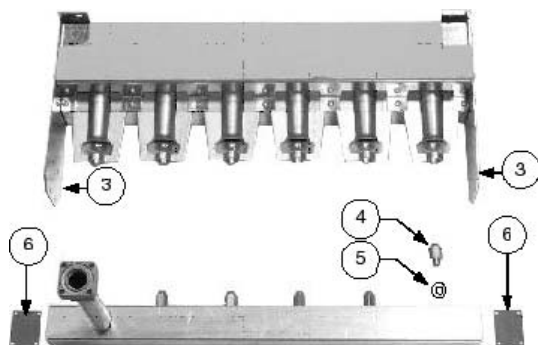
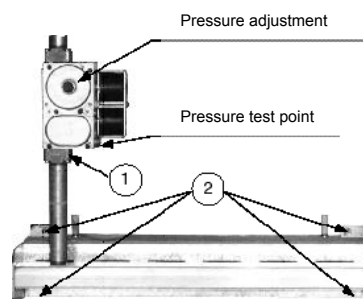

fig.30
fig.31
3. Release the multi-torch burner, disconnecting it from the gas valve (in fig.31 see point 1) and removing the four screws (in fig.31 see points 2) used to secure it (in fig.30 see points 3).
5. Screw on the new nozzles (in fig.30 see 4), replacing the relevant metal gaskets (in fig.30 see point 5)
6. Refit the gas train, replacing the gaskets on the manifold's heads (in fig.30 see point 6) and check for leaks.